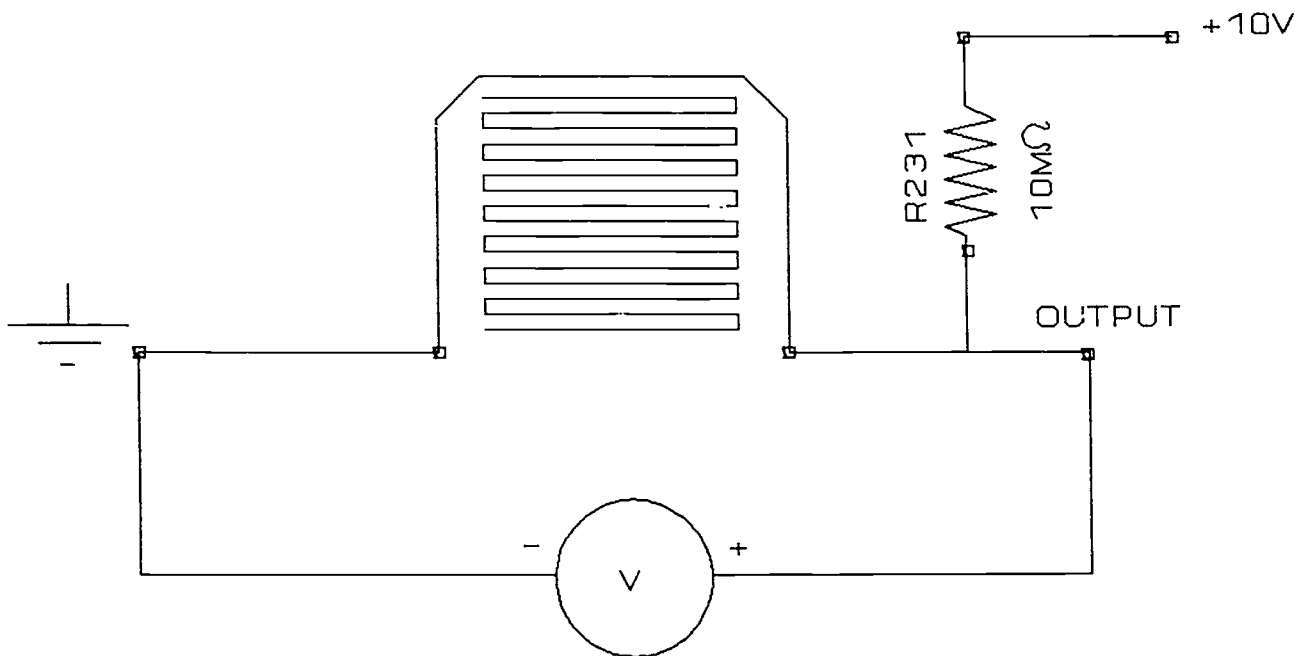

Figure G-3-2
- A. Using the 10 M Ω resistor, Hygropak sensor, power supply, and multimeter, wire the circuit as shown in Figure G-3-2, "Humidity Sensor/Voltmeter Wiring Design."